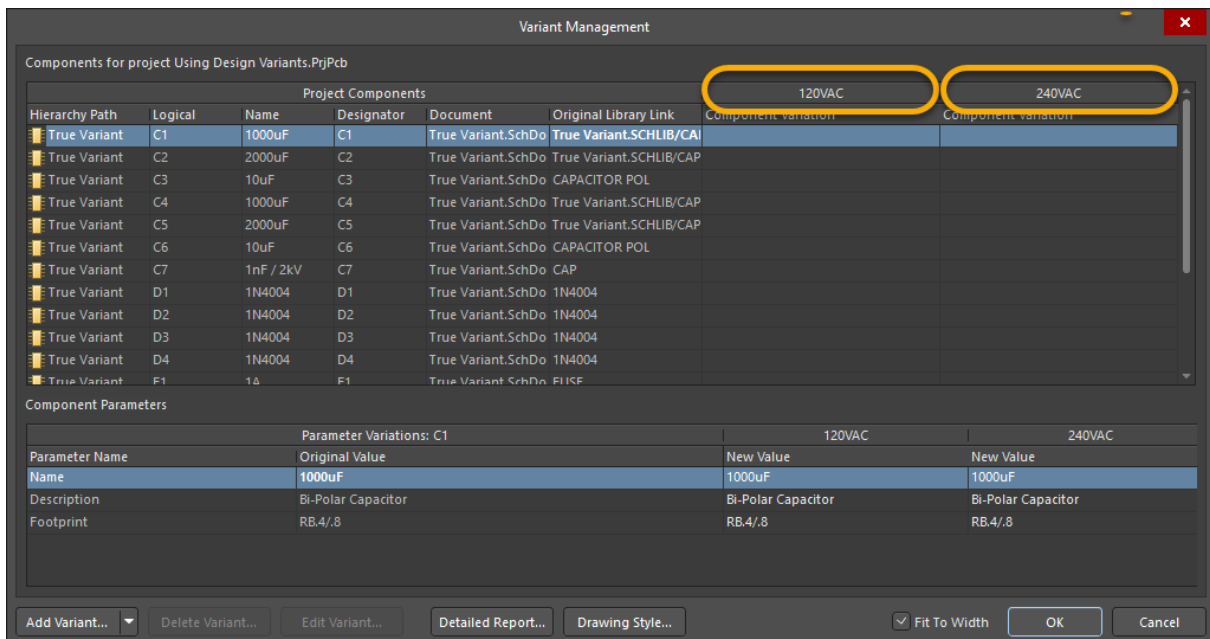

Figure 3. Two new variants
- Add a second variant named `240VAC` with the parameter `ABC123-240VAC` as described in the last step, Figure 3.